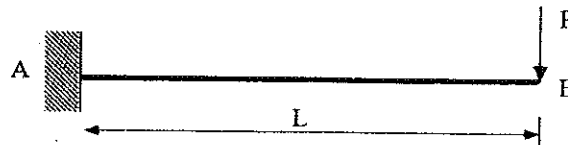

Figure 1(a)
- (b) A cantilevered beam (AB) is loaded with a point load P at the free end as shown in Figure 1(a). Using **Moment Area Method**, determine the rotation and vertical deflection at free end B of the beam. (EI is constant)